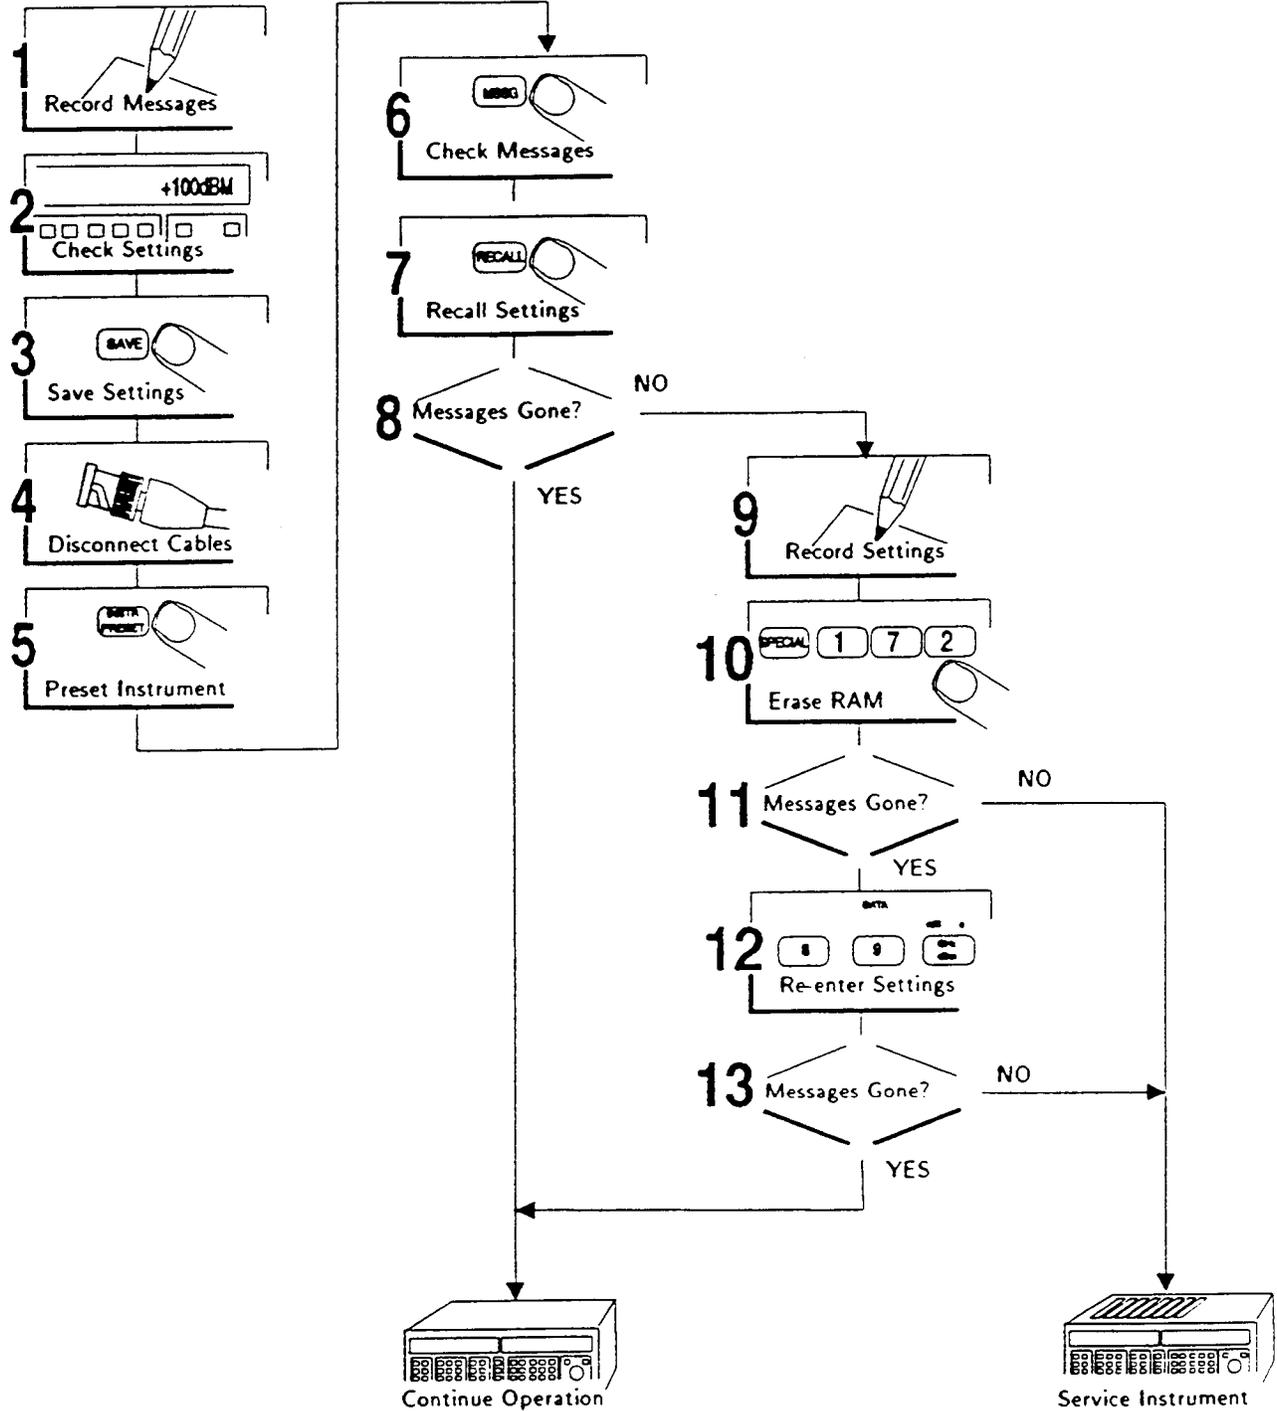

Figure D-1. Corrective Action for Error Messages
Hardware Failure 1	A communications discriminator failure has been detected at power up, or detected as a result of a self-calibration or self-test. Refer to figure D-1 for corrective action.
Hardware Failure 2	A VCO failure has been detected at power up, or detected as a result of a self-calibration or self-test. Refer to figure D-1 for corrective action.
Hardware Failure 3	A Fractional-N failure has been detected at power up, or detected as a result of a self-calibration or self-test. Refer to figure D-1 for corrective action.
Hardware Failure 4	A modulation distribution failure has been detected at power up, or detected as a result of a self-calibration or self-test. Refer to figure D-1 for corrective action.
Hardware Failure 5	An ALC failure has been detected at power up, or detected as a result of a self-calibration or self-test. Refer to figure D-1 for corrective action.
Hardware Failure 6	An attenuator failure has been detected at power up, or detected as a result of a self-calibration or self-test. Refer to figure D-1 for corrective action.
Hardware Failure 7	An audio source failure has been detected at power up, or detected as a result of a self-calibration or self-test. Refer to figure D-1 for corrective action.
Hardware Failure 8	A reference failure has been detected at power up, or detected as a result of a self-calibration or self-test. Refer to figure D-1 for corrective action.
Hardware Failure 9	A doubler failure has been detected at power up, or detected as a result of a self-calibration or self-test. Refer to figure D-1 for corrective action.
Hardware Failure 13	A front panel failure has been detected at power up, or detected as a result of a self-calibration or self-test. Refer to figure D-1 for corrective action.
Hardware Failure 14	A power supply failure has been detected at power up, or detected as a result of a self-calibration or self-test. Refer to figure D-1 for corrective action.
Hardware Failure 15	An I/O board failure has been detected at power up, or detected as a result of a self-calibration or self-test. Refer to figure D-1 for corrective action.
Hardware Failure 16	A controller failure has been detected at power up, or detected as a result of a self-calibration or self-test. Refer to figure D-1 for corrective action.
Hardware Failure 18	A frequency counter failure has been detected at power up. Refer to figure D-1 for corrective action.
Hardware Failure 21	A communications discriminator out-of-lock (OOL) condition exists. Refer to figure D-1 for corrective action.
Hardware Failure 23	A Fractional-N (NF) phase-locked-loop (PLL) out-of-lock (OOL) condition exists. Refer to figure D-1 for corrective action.
Hardware Failure 24	A VCO frequency-locked-loop (FLL) out-of-lock (OOL) condition exists. Refer to figure D-1 for corrective action.
Hardware Failure 25	A VCO phase-locked-loop (PLL) out-of-lock (OOL) condition exists. Refer to figure D-1 for corrective action.
Hardware Failure 26	A fast controller failure has been detected at power up, or detected as a result of a self-calibration or self-test. Refer to figure D-1 for corrective action.
Hardware Failure 27	An audio source out-of-lock (OOL) condition exists. Refer to figure D-1 for corrective action.
Hardware Failure 28	A reference out-of-lock (OOL) condition exists. Refer to figure D-1 for corrective action.
Hardware Failure 31	A ROM failure has been detected at power up, or detected as a result of a self-calibration or self-test. Refer to figure D-1 for corrective action.
Hardware Failure 32	A ROM failure has been detected at power up, or detected as a result of a self-calibration or self-test. Refer to figure D-1 for corrective action.
Hardware Failure 33	A ROM failure has been detected at power up, or detected as a result of a self-calibration or self-test. Refer to figure D-1 for corrective action.
Hardware Failure 34	A ROM failure has been detected at power up, or detected as a result of a self-calibration or self-test. Refer to figure D-1 for corrective action.
Hardware Failure 35	A voltmeter failure has been detected at power up, or detected as a result of a self-calibration or self-test. Refer to figure D-1 for corrective action.
Hardware Failure 36	A RAM failure has been detected at power up, or detected as a result of a self-calibration or self-test. Refer to figure D-1 for corrective action.
Calibration Error 1	A condition occurred where invalid level calibration data resides in either the Output or the Attenuator modules. Follow the external calibration procedures outlined in figure D-1 .
Calibration Error 2	At some time during the calibration or self-test, a condition occurred where some hardware was unable to be calibrated. Fix the hardware and re-calibrate. Refer to figure D-1 for corrective action. This error message will always be accompanied by other error messages.
User Memory Cleared	A memory failure has been detected, all battery backup memory is lost. Refer to figure D-1 for corrective action.